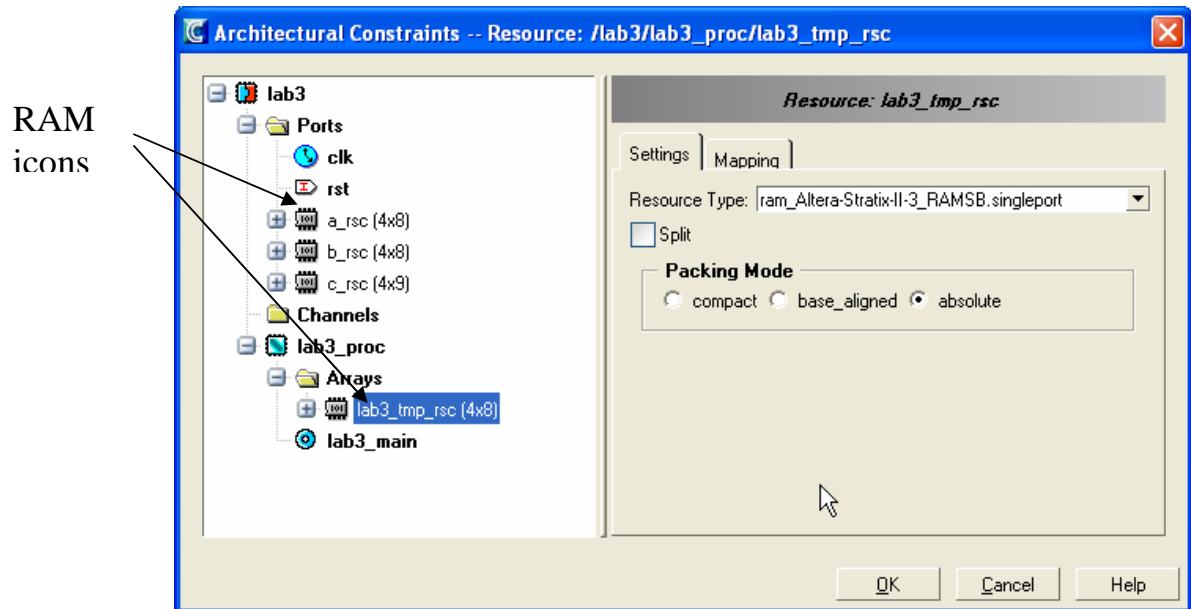

Figure 2 Mapping Resources to RAMs
- ✓ Click on each resource and map them to the singleport RAM component (Figure 2).